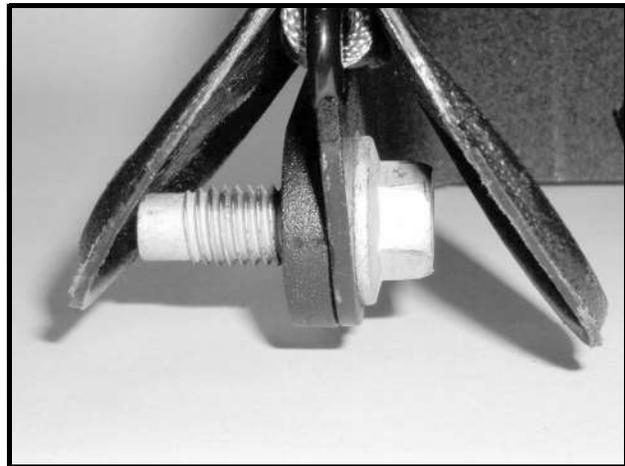

Figure 4-6 Center Seat Belt Fastener
3. Remove the bolt from the center safety belt latch base assembly (center location) (Figure 4-6, Page 4-8).